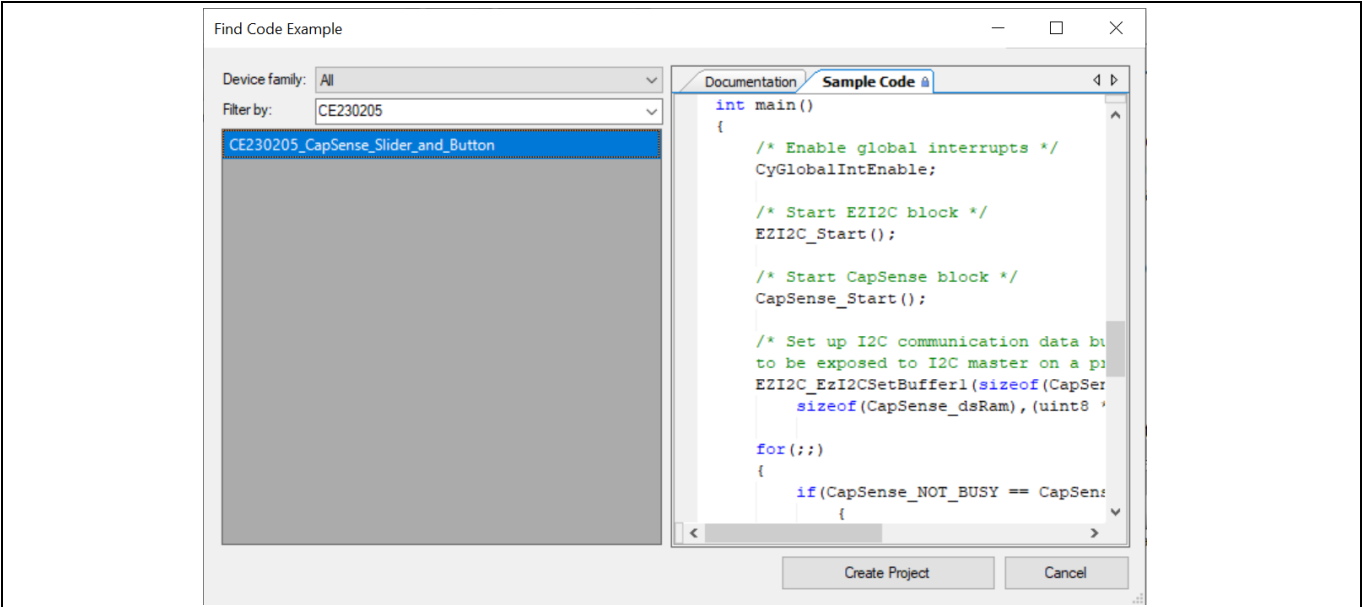

Figure 21 CE230205_CapSense_Slider_and_Button Code Example
4. Select the **CE230205_CapSense_Slider_and_Button** project and click the **Create Project** button as shown in **Figure 21**. Save the workspace to a desired location.